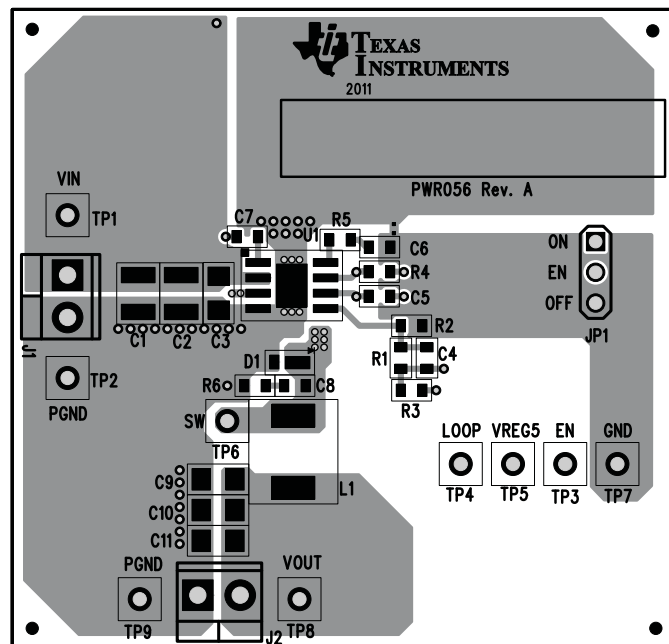

Figure 14. Top Assembly
The board layout for the TPS54239EEVM-056 is shown in Figure 14 through Figure 18. The top layer contains the main power traces for VIN, VO, and ground. Also on the top layer are connections for the pins of the TPS54239E and a large area filled with ground. Many of the signal traces also are located on the top side. The input decoupling capacitors are located as close to the IC as possible. The input and output connectors, test points, and all of the components are located on the top side. An analog ground (GND) area is provided on the top side. Analog ground (GND) and power ground (PGND) are connected at a single point on the top layer near C6. The two internal layers are completely dedicated to power ground planes. The bottom layer is primarily power ground. A copper pour area on the bottom layer is used to connect the switching node (SW) to the output inductor and the boost capacitor. Traces also connect enable control jumper, EN, VREG5, and LOOP test points, and the feedback trace from VOUT to the voltage setpoint divider network.